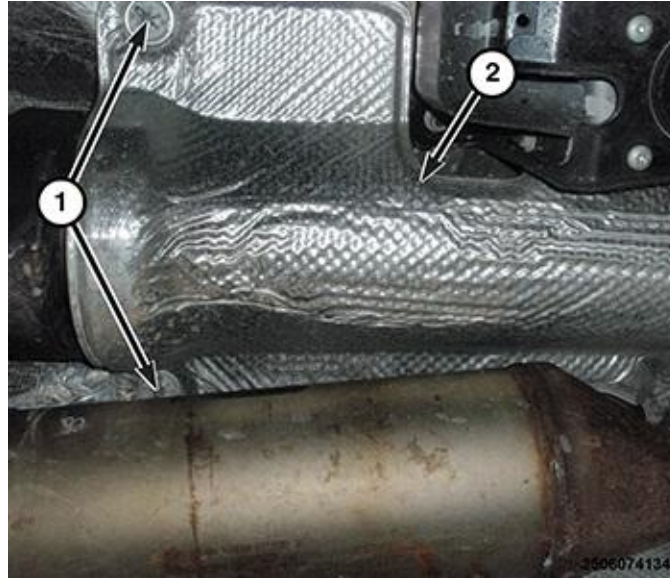

Fig. 13 Exhaust Heat Shield
26. Remove the fasteners (1) and the heat shield (2) (Fig. 13).